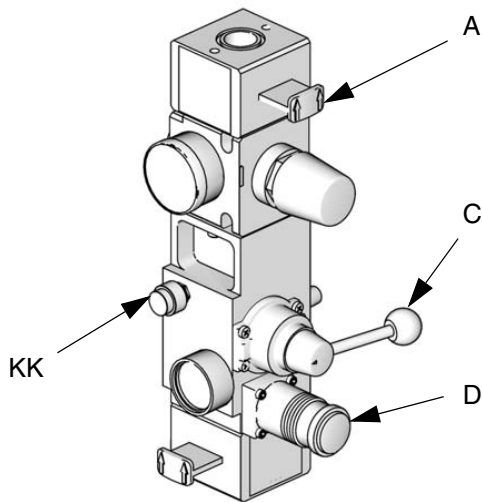

FIG. 13
3. Place the ram lever (C) in the UP position, FIG. 13.